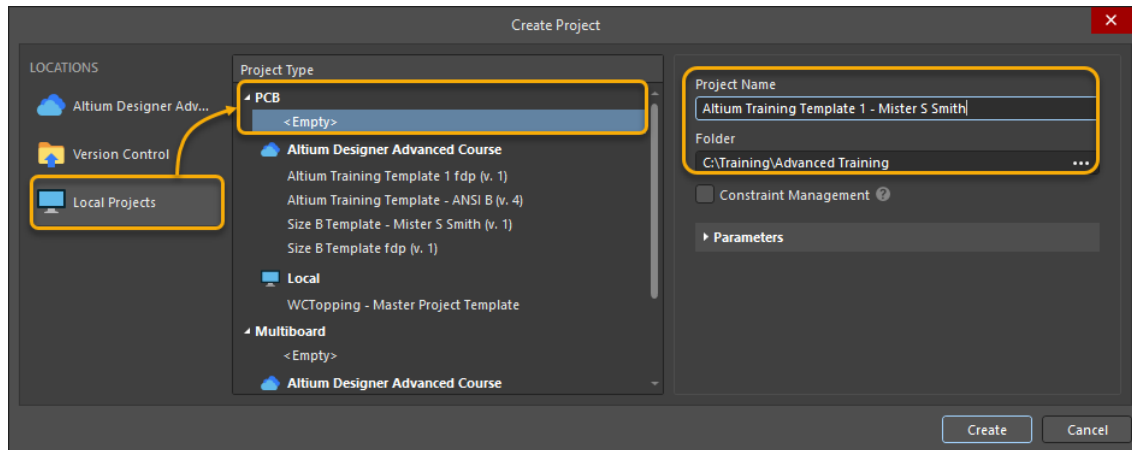

Figure 4. Create Project dialog
12. Go to **File » New » Project...** to launch the *Create Project* dialog. The dialog shown in Figure 4 will appear.
13. You may notice the **Constraint Management** option, that won't be used for this project. Use Figure 4 above as a reference for the following steps: